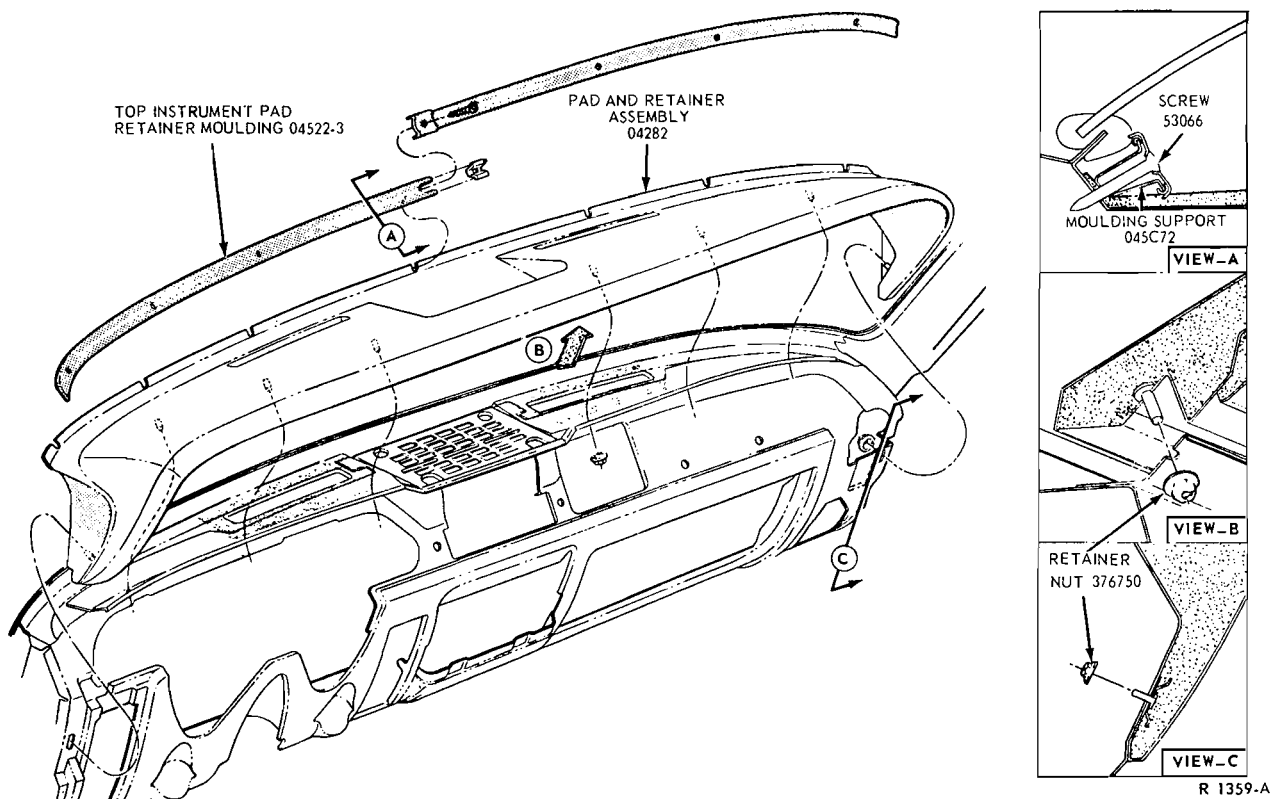

FIG. 18—Instrument Panel Pad Installation—Cougar
2. Remove the thirteen (13) retaining screws from the front of the instrument panel pad assembly (Fig. 18).